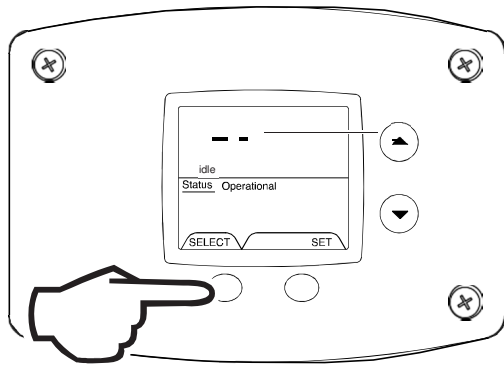

Fig. 41
- 8. Error Code History (Displays if there are present error codes or up to 10 previous error codes). Water Heater Display will show -- if there are no error codes (Fig. 41).